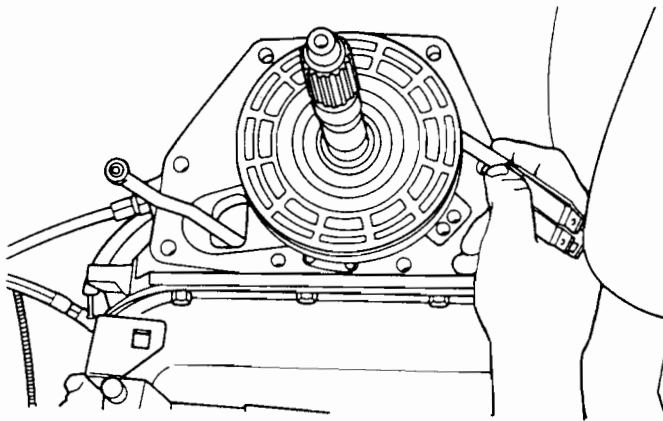

FIGURE 48
1. Before installing the overdrive unit, it will be necessary to cut out the old gasket. Using a sharp knife, cut out the old gasket around the piston (Figure 48). Place the old gasket on the new one for a template and trim the new gasket to fit.